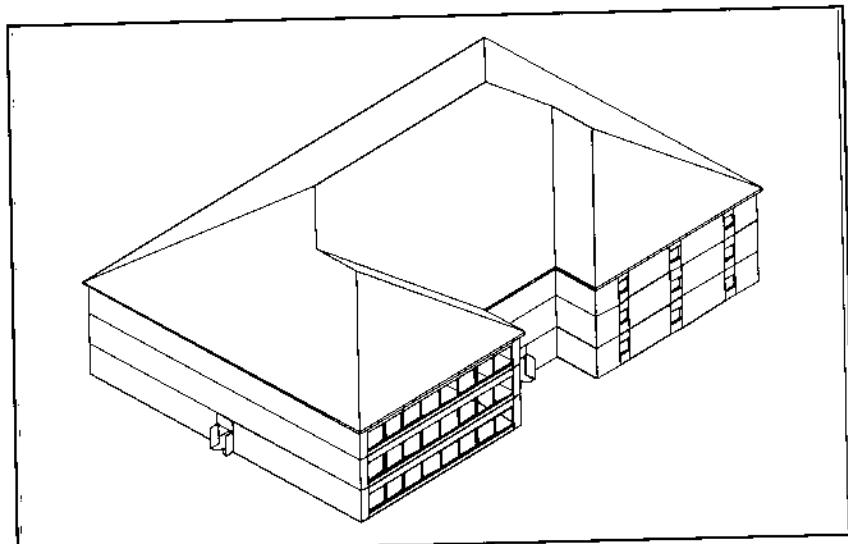

Figure 25.
10. The completed three-story multi-story building is shown in Figure 25 (with the interior building walls hidden).